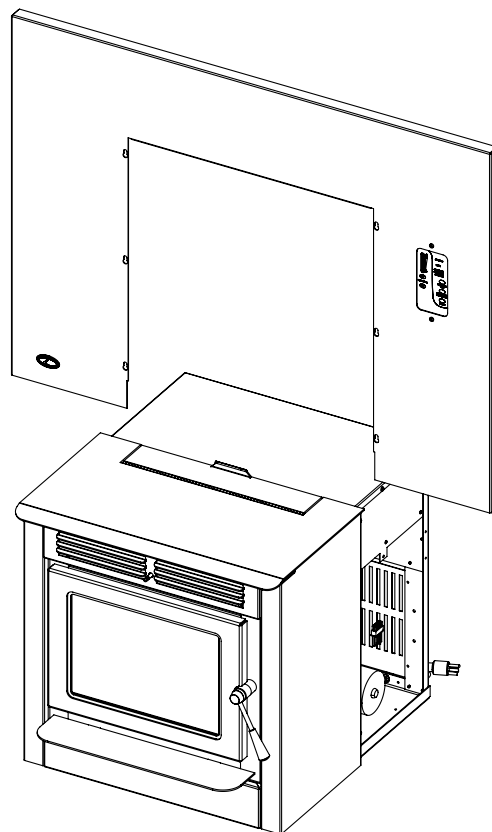

Figure 27 : Attaching the Surround Panel
2. Slip the surround panel down behind the unit as shown in Figure 27.